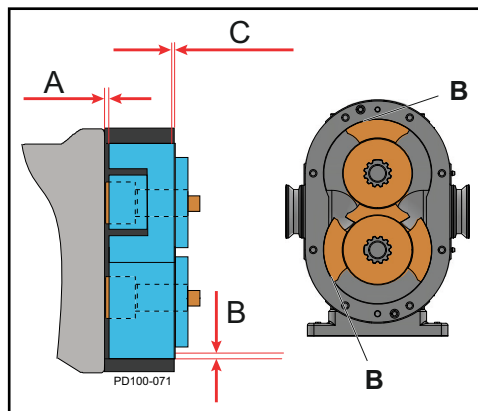

Figure 55 - Measure Clearance
9. Measure the rotor backface clearance (Figure 55, item A) through the port or from the front. The backface clearance for both rotors must be the same to prevent rotor crossover contact and must be $\pm .0005$ " of the value found in Table 8, "Rotor Clearances," on page 48.
10. Check the rotor front face clearance (Figure 55, item C).
11. Check the rotor to body clearance (Figure 55, item B).